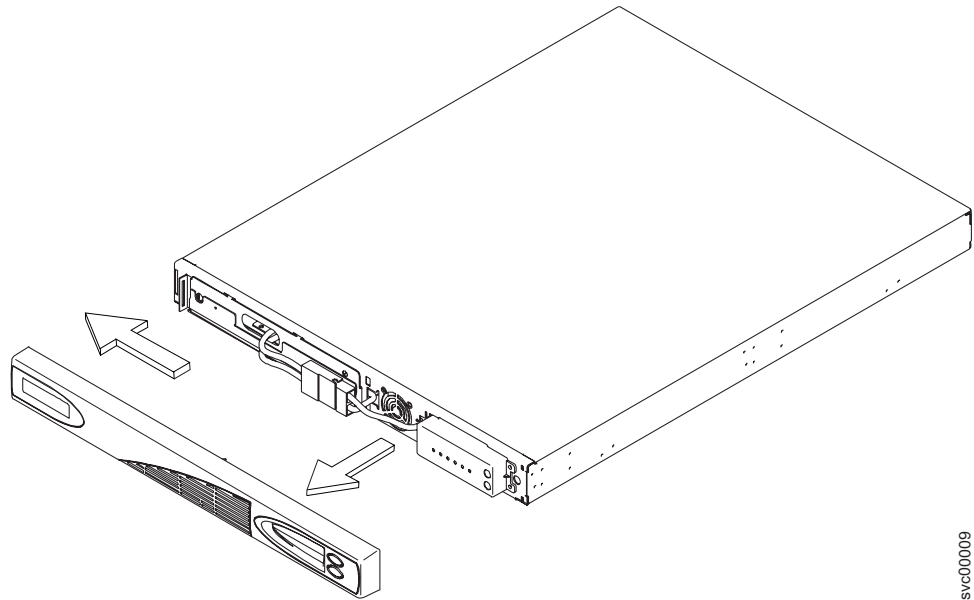

Figure 201. Removing the 2145 UPS-1U front panel
5. Remove the 2145 UPS-1U front panel, as shown in Figure 201.